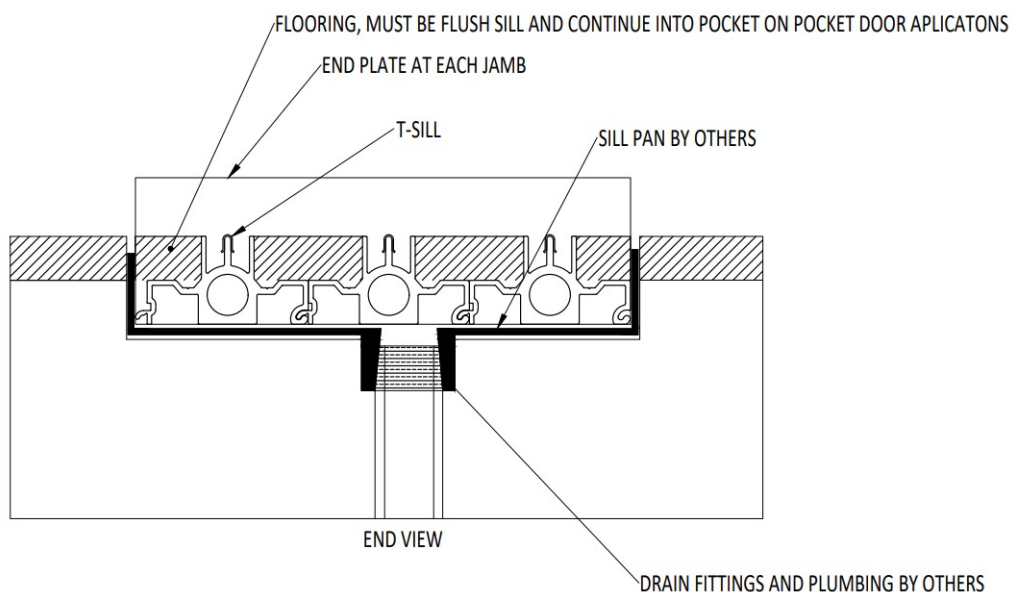

Figure 6
- Front Weep with pan and drain by others (See Figure 6)
8. **Front Weep Sills** – sills that have a weep slot located on the bottom surface 6" from each end and 6" from each stagger location will allow water to drain out the bottom of the sill directly into a water management system supplied by others, such as a sill pan or equivalent. See Figure 6. If a slot drain or similar system is used, the door sill pan can be drained into the slot drain. Ensure that the slot drain bottom is adequately below the sill pan to ensure water only flow away from the sill. (See Figure 6). Proceed to step 10.